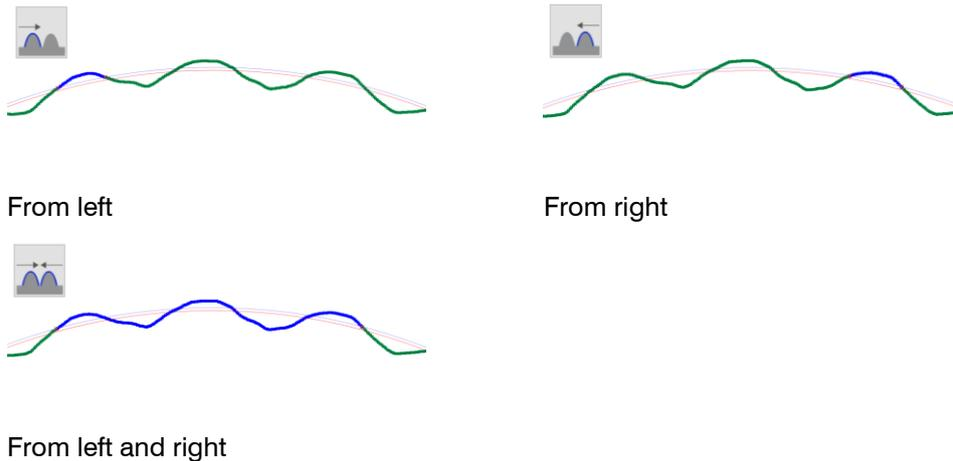

Fig. 4.45: Algorithms for the search direction
- Define the search direction for the detection of the heightening (see Fig. 4.45):